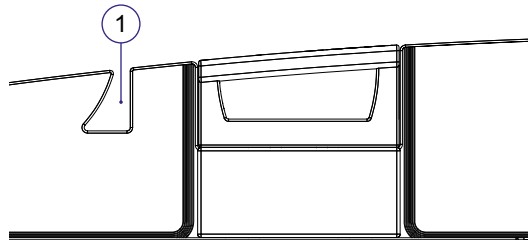

Figure 3.4 Notch in the side protection panel
fitted correctly. Each panel contains a notch (1) (see Figure 3.4) in its upper edge through which drip tubes or wires from monitoring equipment may be routed.